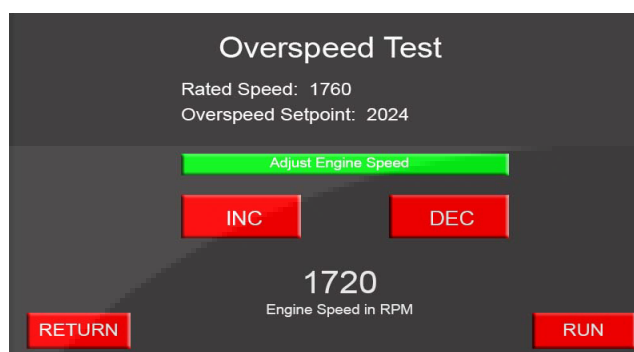

Figure 4-11 Overspeed Test - Adjust Engine Speed
3. If necessary, press Adjust Engine Speed (shown in Figure 4-11) and then use the INC and DEC buttons to increase or decrease the engine speed by increments of ten RPM.